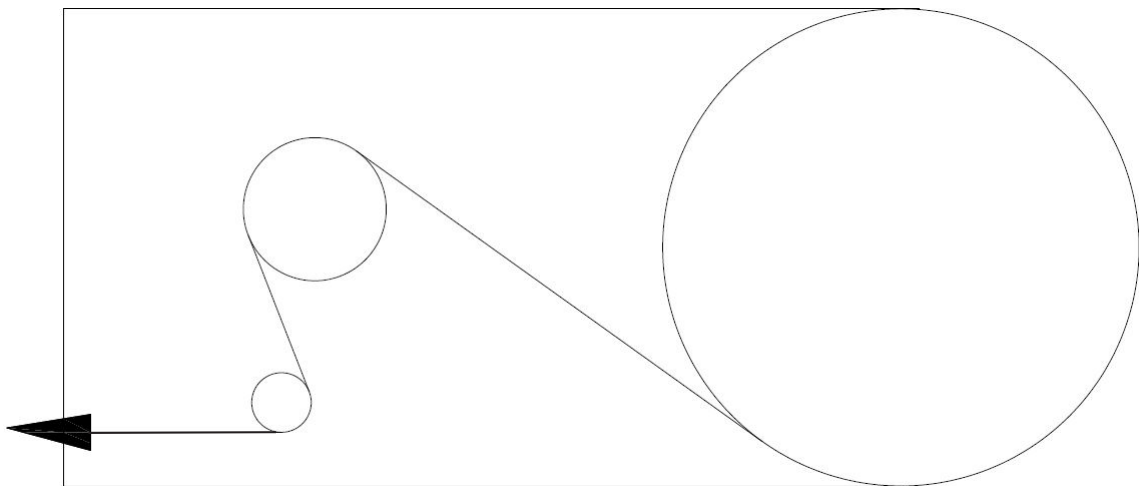

Figure 12
2. Follow the film feed diagram and thread the film all the way through the rollers. (See Figure 12)
1. Load the film roll in the film carriage and thread the film according to figure 12.